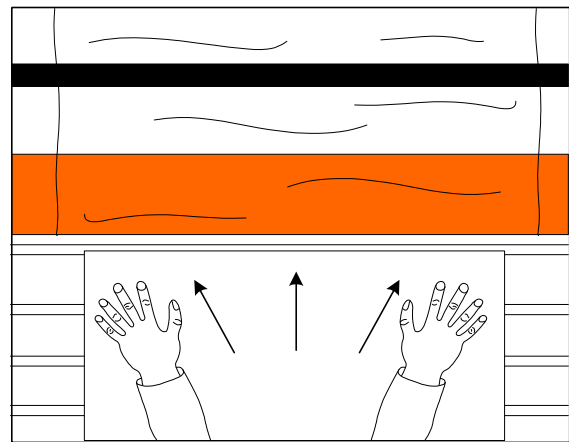

Fig. 10
10. With both hands and an outward force push the image slower than the speed of the rollers into the nip of the heat rollers (Fig. 10).